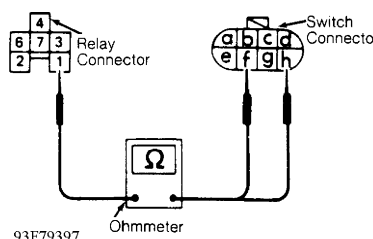

Fig. 8: Inhibitor Relay Connector & Switch Harness Connector
2) Turn ignition off. Disconnect inhibitor relay. Relay is located in relay box next to battery. Place shift lever in Neutral or Park. Turn ignition on. Measure voltage between inhibitor relay connector terminal No. 1 and ground. See Fig. 8. Battery voltage should be present. If battery voltage is present, go to step 5). If battery voltage is not present, go to next step.
8-pin harness connector for pushed-out, bent, damaged or corroded terminals. Repair connector as necessary. Connector is located on side of transaxle. Turn ignition on. Measure voltage between inhibitor switch 8-pin harness connector terminal "D" and ground. For terminal identification, see Fig. 8. Battery voltage should be present. If battery voltage is present, go to next step. If battery voltage is not present, check harness and connectors for open. Also check 10-amp fuse. Repair as necessary.
4) Turn ignition off. Check continuity between inhibitor relay connector No. 1 and inhibitor switch 8-pin harness connector terminal "F". Check continuity between inhibitor relay connector No. 1 and inhibitor switch 8-pin harness connector terminal "H". For terminal identification, see Fig. 8. Continuity should exist in both checks. If continuity does not exist, check harness and connectors for open. Repair as necessary. If continuity exists, check inhibitor switch. See INHIBITOR SWITCH TEST (ALTIMA, NX 2.0L, SENTRA 2.0L, QUEST & 240SX).
5) Turn ignition off. Check continuity between inhibitor relay connector No. 2 and ground. Check continuity between inhibitor relay connector No. 6 and ground. For terminal identification, see Fig. 8. Continuity should exist in all checks. If continuity does not exist in any check, repair open in harness or connectors. If continuity exists in all checks, go to next step.
6) Check continuity between ECM harness connector terminal No. 35 (Green/Orange wire) and inhibitor relay connector No. 7. For terminal identification, see Fig. 8. Continuity should exist. If continuity does not exist, repair open in harness or connectors. If continuity exists, check inhibitor relay. See RELAYS under RELAYS & SOLENOIDS.